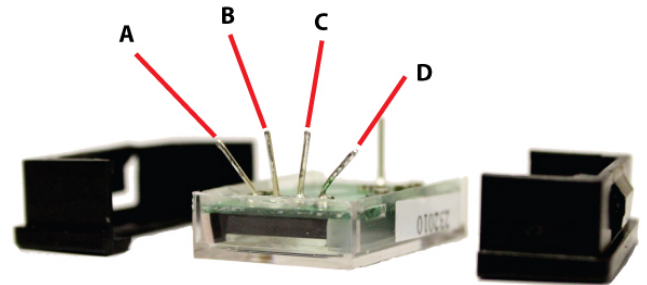

Fig 6
5) (fig 6) As delivered, pins A, B, C, D on the counter are straight up and down and are very close together, which can make soldering to them difficult. With your finger, very gently bend the pins to separate them to provide more working room.